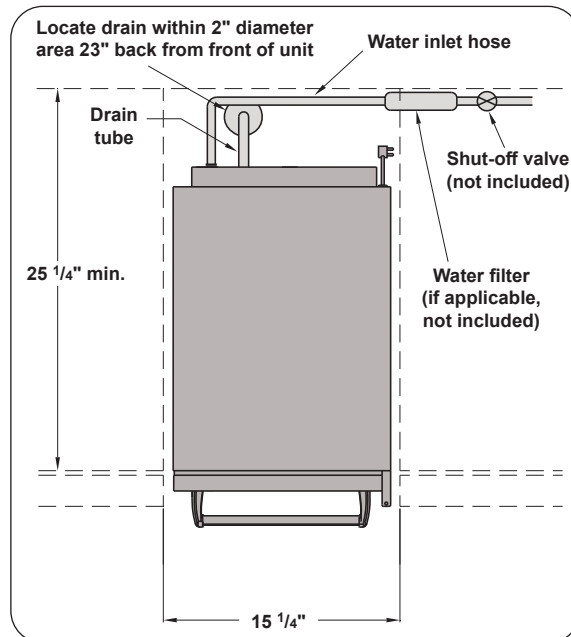

Fig. 9-1 Top view
5. Connect the drain tube (with a diameter of $\frac{5}{8}$ ") to the drain pipe at the rear of the product and secure them together using a hose clamp. See Fig. 9-1 for orientation.